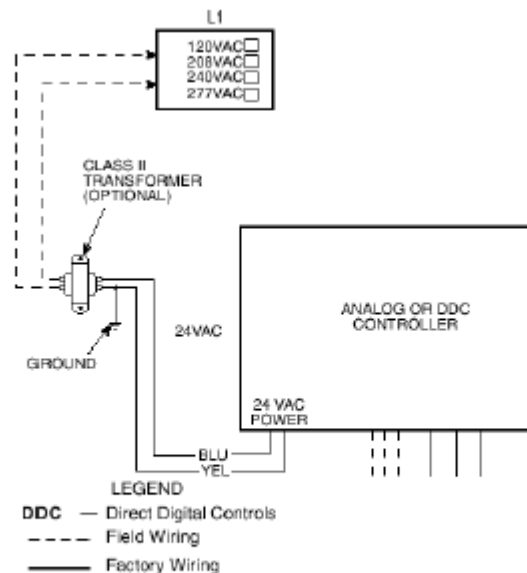

FIGURE 4 – Wiring of Optional Factory-Mounted Transformer
**Step 3 — Install Sensors and Make Field Wiring Connections — Electric Actuator or electric/electronic controls by others**— Refer to specific unit dimensional submittals and control application diagrams for control specifications. All field wiring must comply with National Electrical Code (NEC) and local requirements. Refer to the wiring diagram on the unit for specific wiring connections. A field-supplied transformer is required if the unit was not equipped with a factory-installed transformer. See Fig. 4.